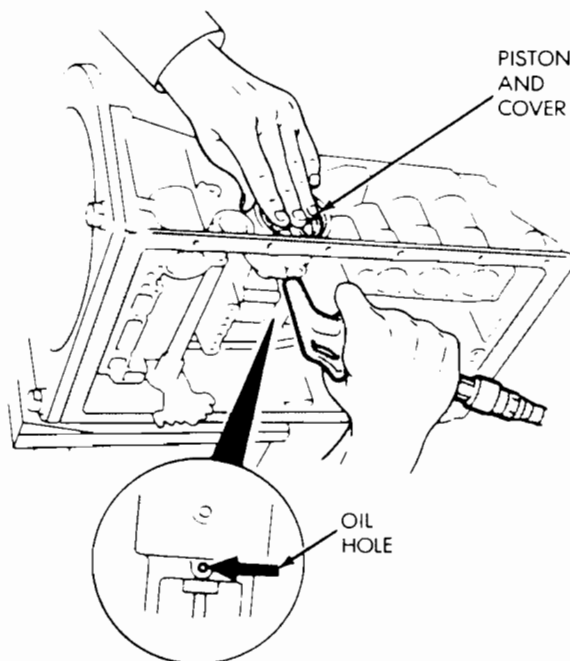

Fig. 34 Removing Servo Cover And Piston
(3) Remove servo piston and cover with compressed air. Apply compressed air through oil hole in servo boss to ease piston out of bore (Fig. 34).